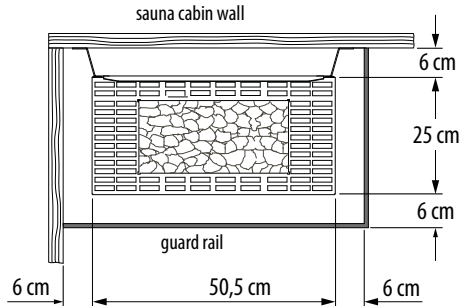

**Fig. 1**
- The minimum height of the sauna cubicle should be **1.90 m** on the inside (Fig. 1)